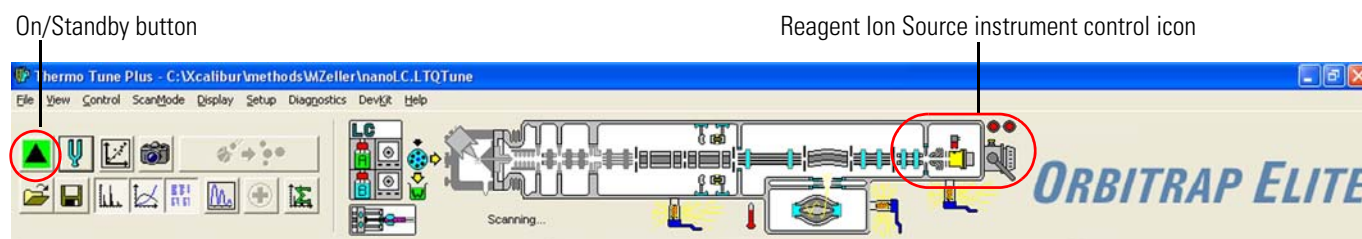
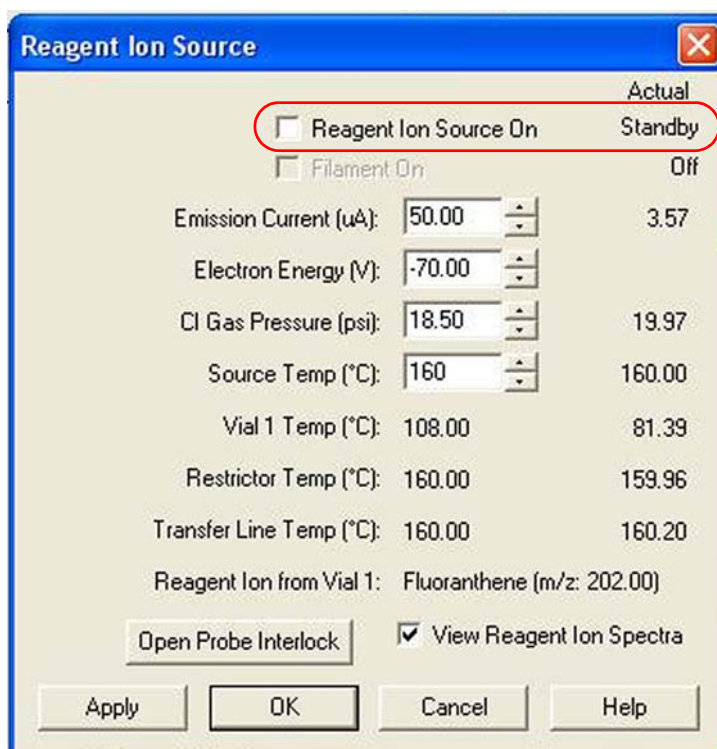

Figure 5-1. Tune Plus window (Orbitrap Elite ETD), toolbar
Figure 5-2. Reagent Ion Source dialog box with Reagent Ion Source On box and Actual condition circled
You can determine the state of the mass spectrometer by observing the state of the On/Off/Standby button on the Control/Scan Mode toolbar. See Figure 5-1. The three different states of the On/Standby button are shown at the left.
2. Click the Reagent Ion Source portion of the instrument control graphic at the top of the Tune Plus window. (See Figure 5-1.) The Reagent Ion Source dialog box appears. (See Figure 5-2.)
3. In the Reagent Ion Source dialog box, clear the Reagent Ion Source On box to place the Reagent Ion Source in Standby condition. See Figure 5-2 on page 5-5. This places the Reagent Ion Source in Standby condition as indicated by the Actual condition shown to the right of the Reagent Ion Source On box.
You can determine the state of the MS detector by observing the state of the On/Off/Standby button on the Control/Scan Mode toolbar. (See Figure 5-1 on page 5-4.) The three different states of the On/Standby button are shown at the left.